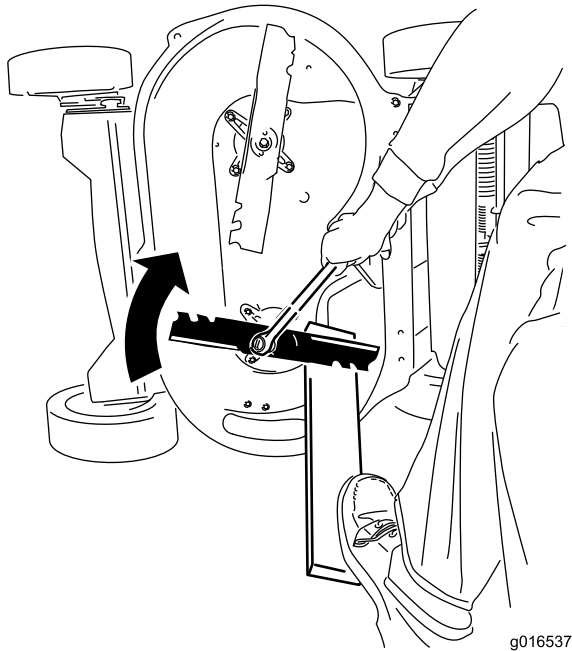

Figure 45
2. Steady each blade with a board and turn the blade bolt clockwise with a torque wrench as shown in Figure 45; torque the blade bolt to 60 ft-lb (82 N-m).